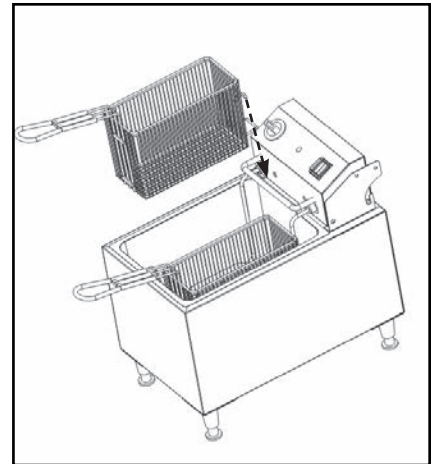

Fig. 10-1
5. Once the food is cooked, carefully lift the baskets from the oil/fat and allow the baskets to rest on the supports as shown in Fig. 10-1. This will allow any excess oil/fat to drain back into the oil pan.